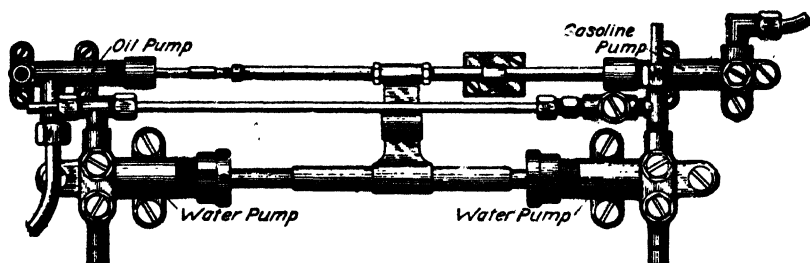
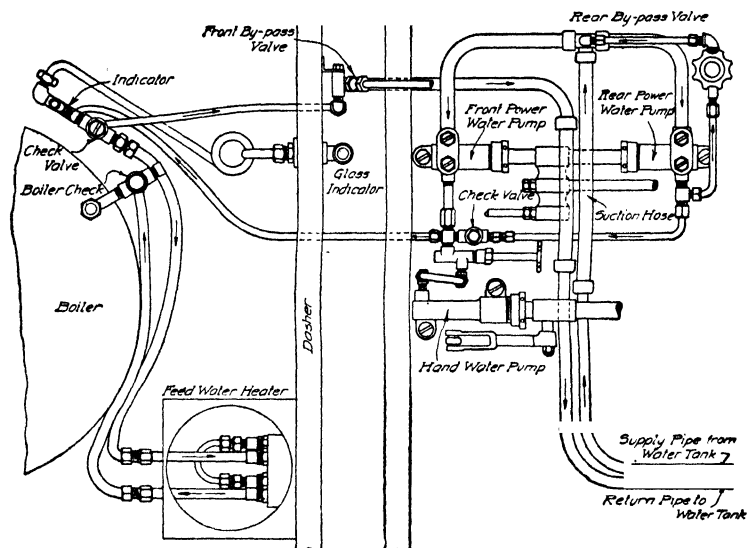

Fig. 46. Power Pumps of Stanley Engine
Fig. 51. Diagram of Stanley Water System
**Stanley Fuel, Water, and Steam Systems.** *Fuel System.* On the Stanley cars the main fuel tank is carried under atmospheric pressure and the fuel is drawn from the tank by the power-driven pump, Fig. 46. In series with the power fuel pump is a hand pump for use
*Water and Steam System.* From the main water tank the water is drawn by two opposite *power-driven pumps*, Fig. 46, and follows the course shown in Fig. 51. A *hand pump* is also provided for use
Driven by the same mechanism which drives the Stanley fuel and water pumps, is the *oil pump*, Figs. 46 and 53. From the oil tank the pump forces the oil through the sight feed on the dash, from which it is led into the steam line to the engine.